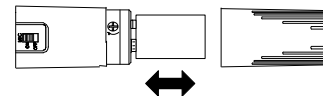

FIGURE 7
2. Unscrew the transmitter battery cover to expose the battery terminals, as shown in Figure 7.
3. Insert a fresh 9V alkaline battery into the battery compartment as shown in Figure 7 (Alkaline recommended and included with the system). A fresh 9V alkaline battery should typically provide 18 hours of performance time. A fully charged 8.4V NiCad battery should provide 2 hours of performance time. When the LOW BATTERY light on the transmitter turns on, you have 1 hour or less of useful battery life remaining; change the battery at your first opportunity.